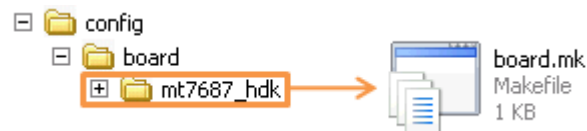

Figure 16. The Path of `board.mk`
- 3) `board.mk` is located at `<sdk_root>/config/board/<board>/board.mk` (see Figure 16) and defines the extra include paths to the header files related to the development board.